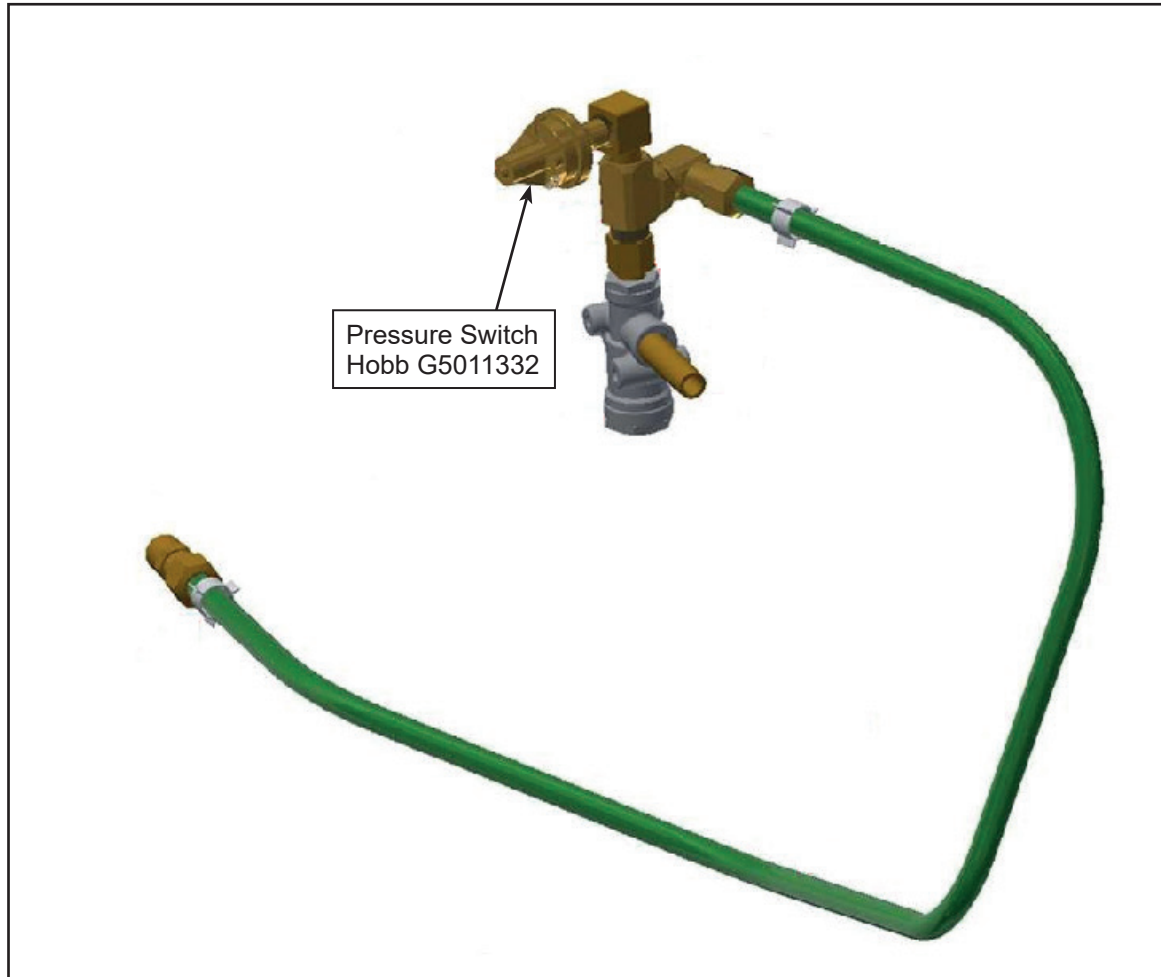

Figure 8 - Reinstallation of Pressure Switch Hobb
1.17. Reinstall the pressure switch hobb G5011332 to 90° elbow (see figure 8).